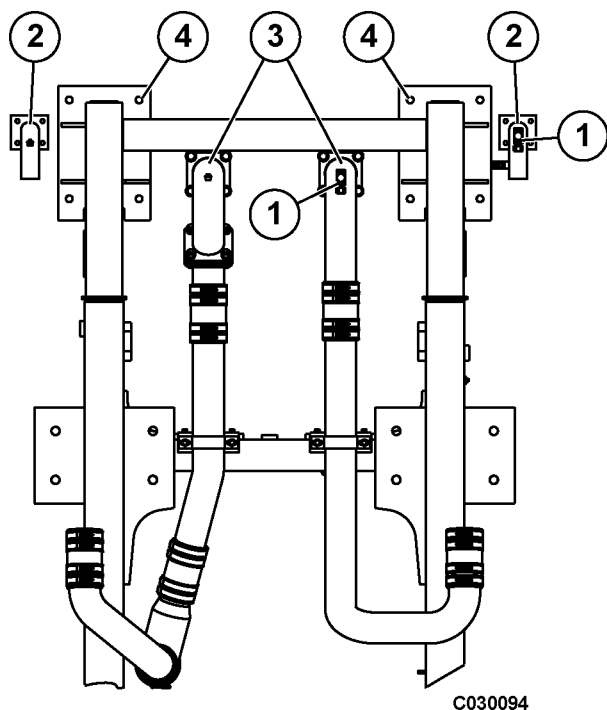

FIGURE 50-20. RADIATOR PIPING, BOTTOM VIEW
6. Remove outlet elbows (2) and (3, Figure 50-20) at the bottom tanks. Cap all coolant lines to prevent contamination.
11. Remove radiator mounting hardware (4, Figure 50-20) that secures the radiator and to the power module subframe.